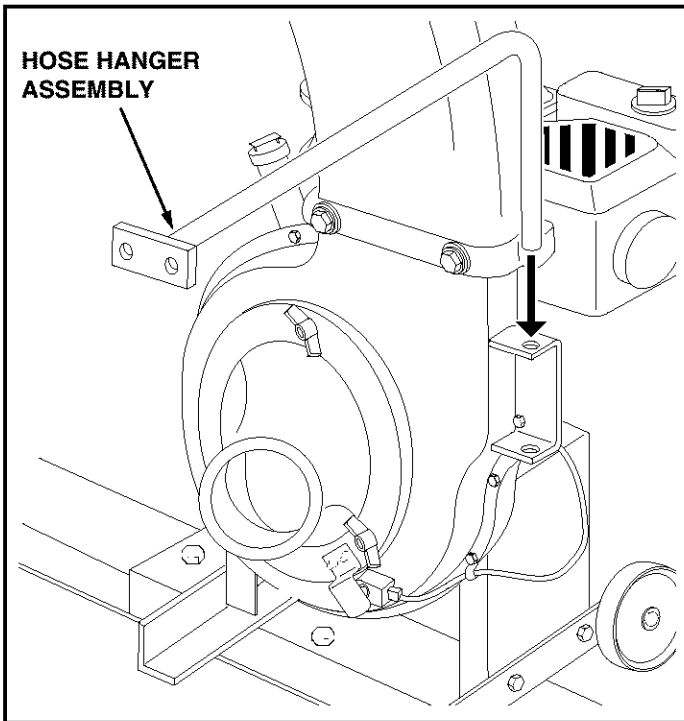

FIGURE 18
- Place the hose hanger rod assembly down into the hose hanger bracket on the impeller housing assembly. See figure 18.